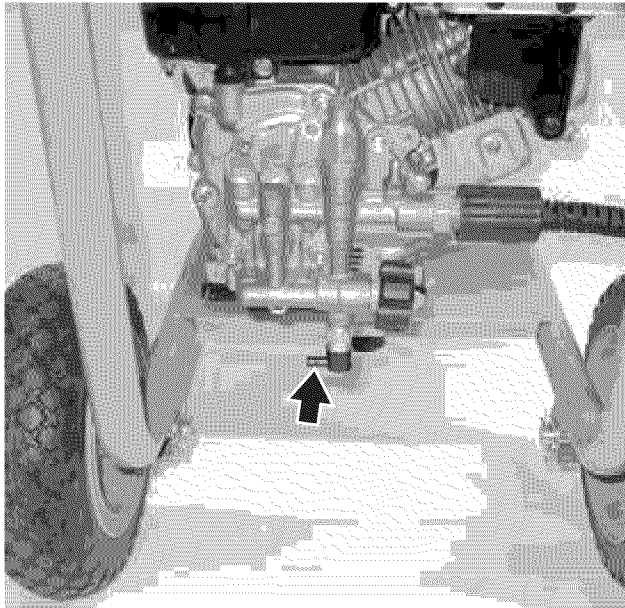

Figure 40 – Pump Thermo Valve – WP3000Z
**NOTE:** The pump is equipped with a thermo valve (see Figure 40). If the pump is run for an extended period of time without water flowing through it, it could overheat. If the pump gets to a certain temperature, the thermo valve will open and discharge warm water out the valve to allow cold water in to cool the pump.